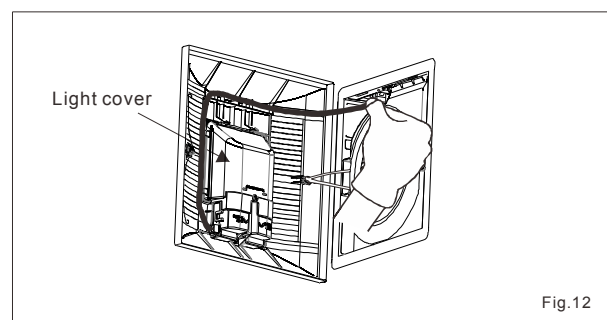

Fig.12
-  The light cover must be installed upward. If not, it will be effect the life of fluorescent lamp. (Fig.12)